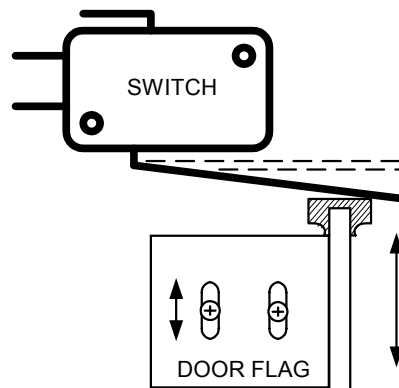

Figure 4
31. With the door still closed, slide the loosely positioned door flag upward between the optical sensor until the flag is contacting the interlock switch moment arm. Continue to slide the flag upward until an audible click from the switch is heard (switch engaged), and the moment arm of the switch is at the end of it's travel. Tighten the two M4 x 8mm screws. Ensure the flag is positioned perpendicular to the door in both axis, and that the flag is centered between the optical sensor. Readjust if necessary. See figure 4.